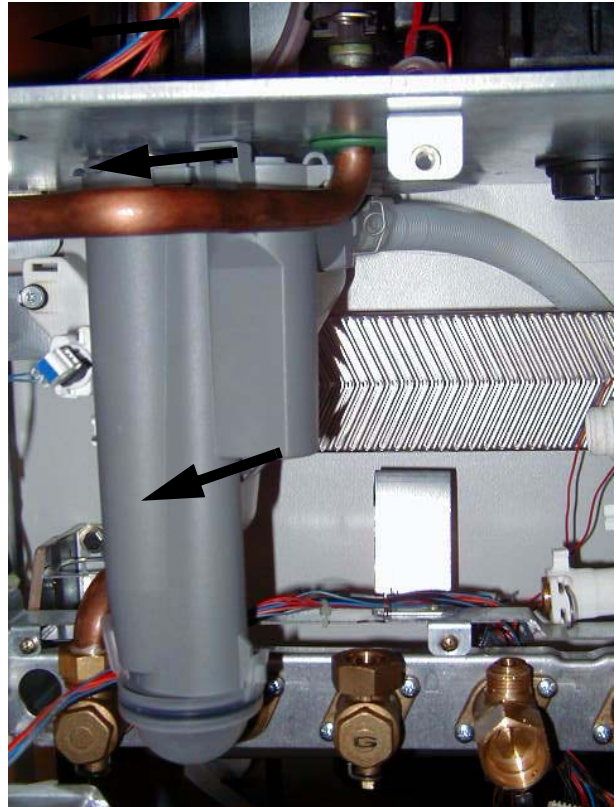

Fig. 37
- ▶ Unscrew condensation trap and place suitable container underneath. Refer to fig. 37.